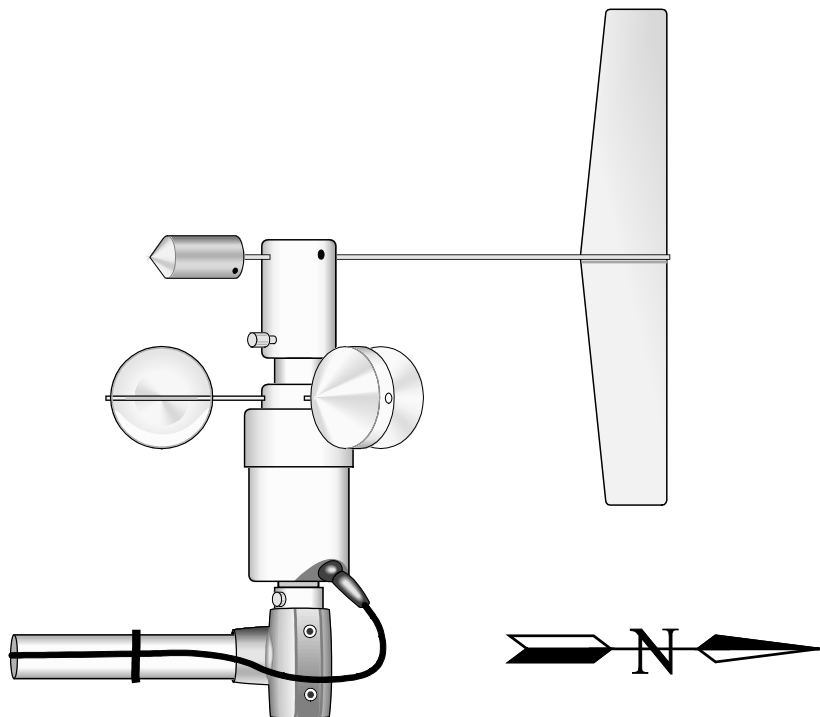
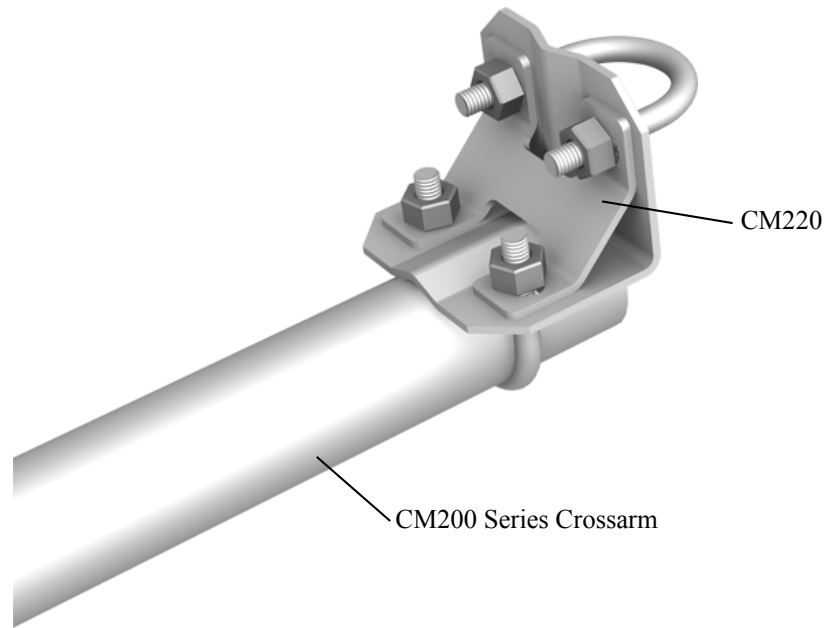

FIGURE 4-1. 034B mounted on a crossarm using a 17953 NU-RAIL crossover fitting
FIGURE 4-2. CM200 Series Crossarm with CM220 Right Angle Mounting Bracket
- 17953, *1 x 1 inch NU-RAIL Crossover Fitting* (FIGURE 4-1), or
- CM220, *Right-Angle Mounting Kit* (FIGURE 4-2)
1. Fully insert vane arm into hub (see FIGURE 4-1).
2. Align vane with center axis of sensor (see FIGURE 4-1).
3. Using the Allen wrench, tighten set screws at the top of the hub (see FIGURE 4-1).
7. Remove the alignment screw at the base of the 034B (FIGURE 4-1).
8. Insert the 034B into the aluminum bushing provided with the sensor (see FIGURE 4-1).
9. Align the hole in the bushing with that in the 034B base and replace the screw (see FIGURE 4-1).
10. Insert the 034B/bushing into the NU-RAIL fitting (FIGURE 4-1) or the CM220's U-bolt (FIGURE 4-2).
12. Remove the shoulder screw to allow the vane to rotate (see FIGURE 4-1).